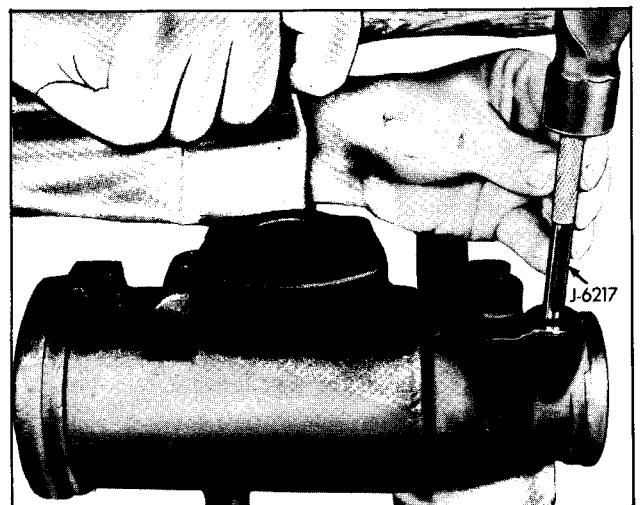

Fig. 9-99 Installing New Connector in Housing Using Tool J 6217
3. Install new connector seats, using petrolatum to hold connector seat on check valve in pressure port. Drive connector seats in place using valve connector seat installer J 6217 (Fig. 9-99).